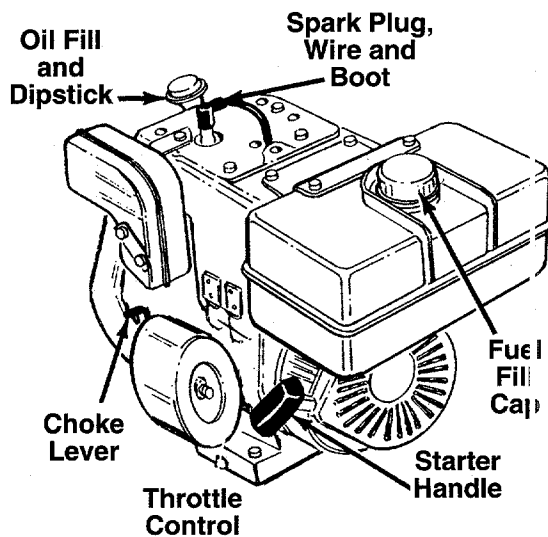

FIGURE 13.
**MAKE CERTAIN THE SPARK PLUG WIRE IS DISCONNECTED AND MOVED AWAY FROM THE SPARK PLUG BEFORE ASSEMBLING THE CHIPPER-SHREDDER. REFER TO FIGURE 13, PAGE 10.**
- Attach spark plug wire and rubber boot to spark plug. See figure 13.
- Place the throttle control lever in FAST position (UP).
- Grasp starter handle (see figure 13) and pull rope out slowly until engine reaches start of compression cycle (rope will pull slightly harder at this point). Let the rope rewind slowly.